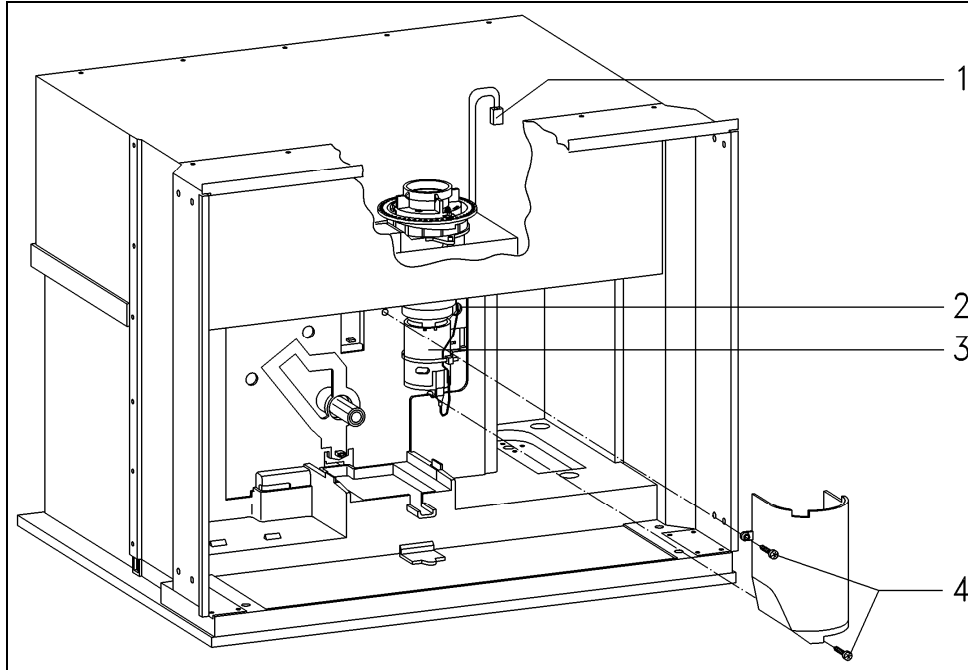

Figure 5-50: Accessing the Grinder for Complete Removal
9. Remove the cover retaining screws (Figure 5-50, Item 4).
Mark the polarity of the plug (Figure 5-50, Item 1) connected to the electronic.